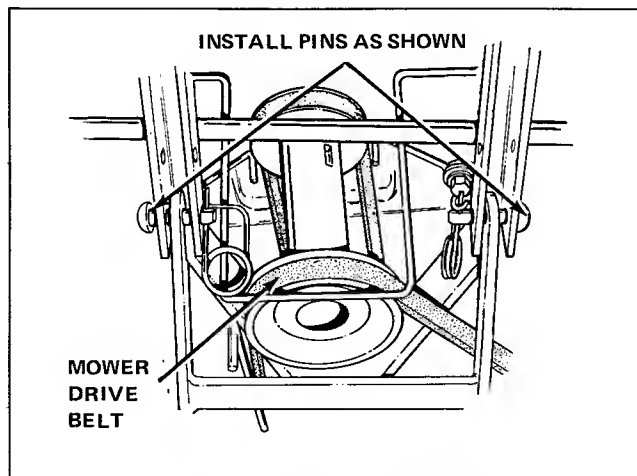

Figure 3. Attaching Mower
5. Attach the mower hitch to the rear holes in the front axle mounting points (figure 3) using the two pins and safety clips provided.
6. Slip the mower drive belt on the engine PTO pulley (figure 3).